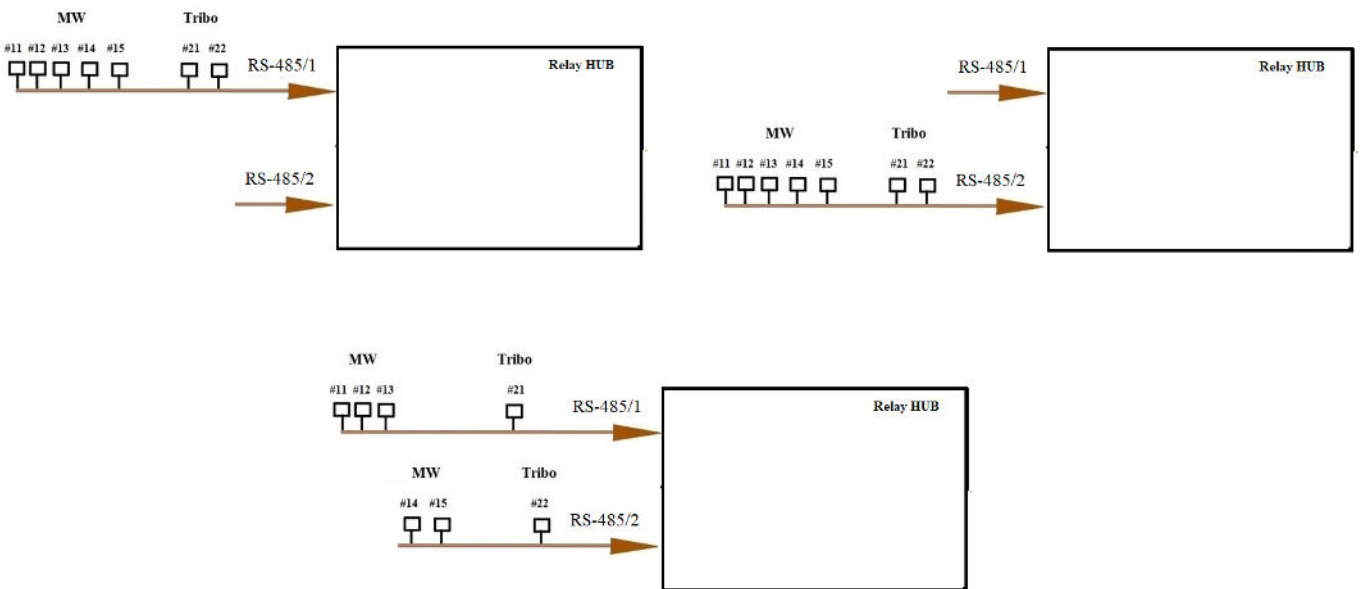

Figure 1.5 – Options for connecting DDs
1.4.9 Options for connecting DDs are shown in Figure 1.5